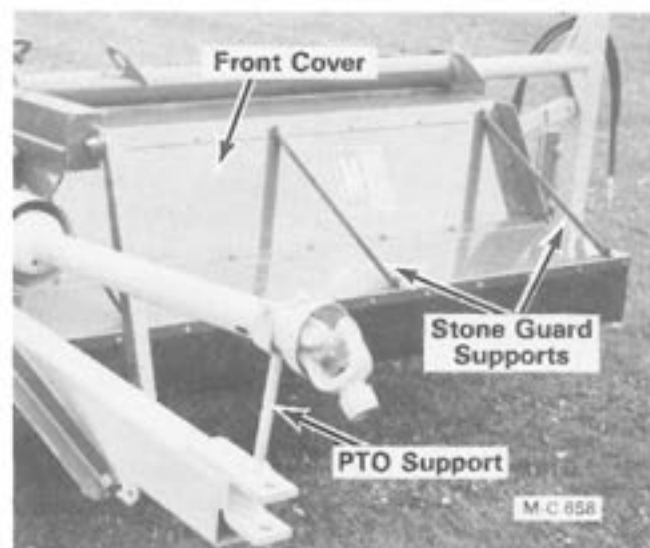

Figure 10
4. Install the assembled stone guards to the Shredder front cover, see Figure 10 page 8. Use $\frac{3}{8}$ "-16 X 1" (Grade 5) hex-head capscrews, flatwashers and locknuts to secure the stone guard supports to the Shredder front cover. The flatwashers go under the locknuts. Use $\frac{3}{8}$ "-16 X $\frac{3}{4}$ " (Grade 5) hex-head capscrews and locknuts to secure the stone guards to the Shredder front cover.